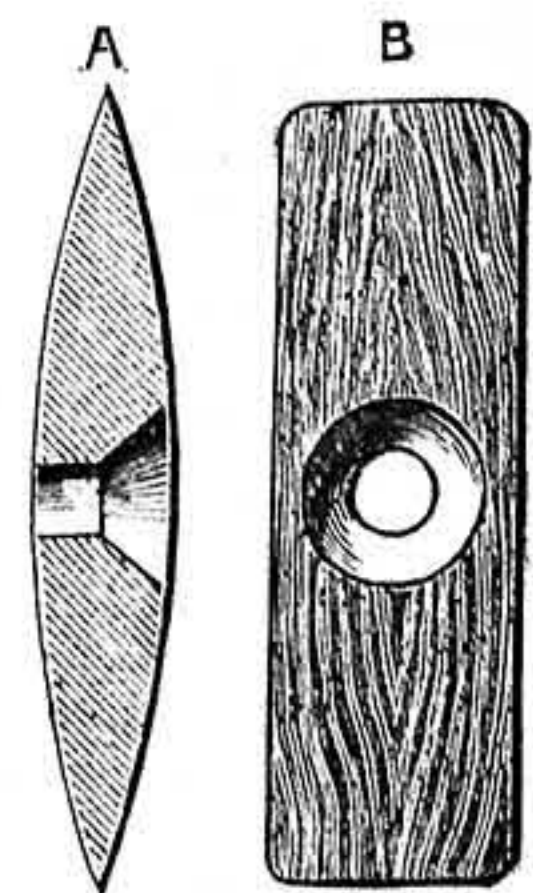
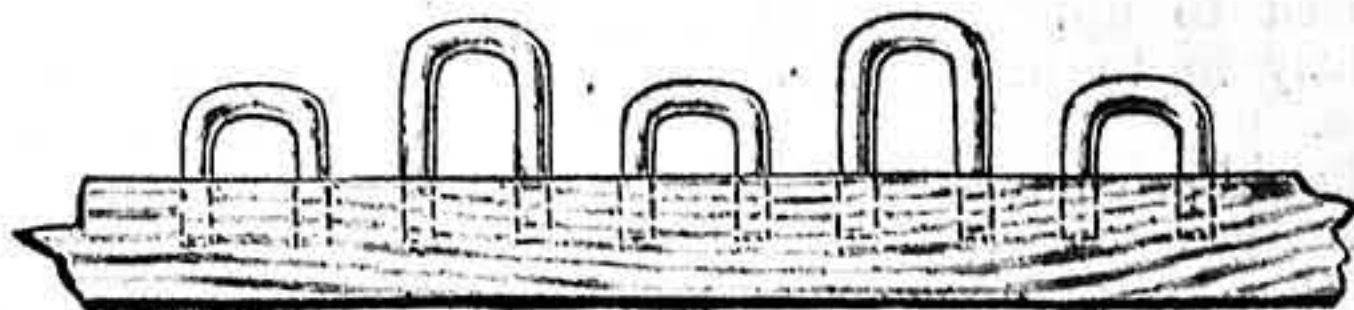
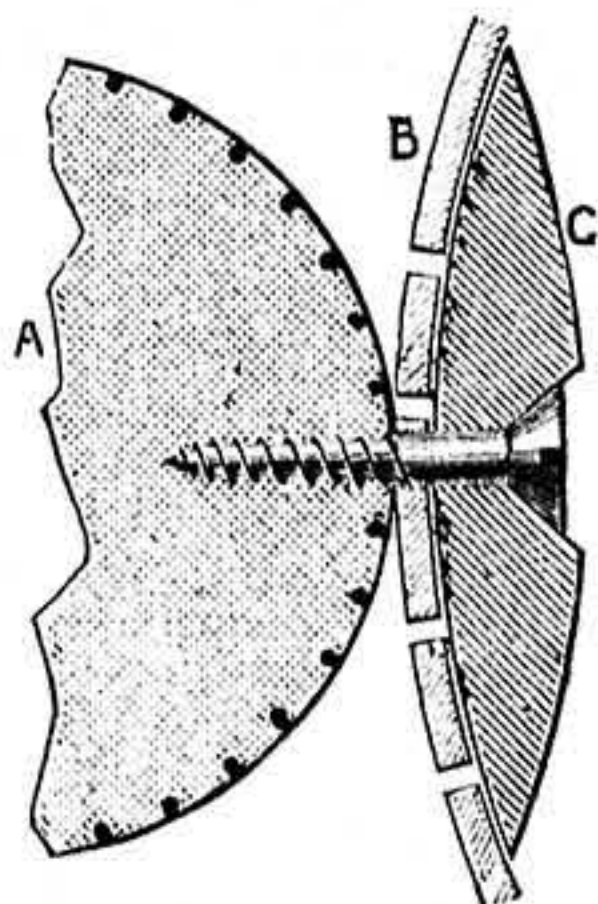

Fig. 2
Fig. 6
Fig. 3
Steadying Blocks.—Get a piece of hard wood, fully 1½ in. broad and about ½ in. thick; taper off with small plane on both sides to edge until the end assumes the shape of A in Fig. 2. Cut off six pieces to pattern B, and bore in centre of each a hole which will give easy access to ¼ in. screw, taking
Novel Stand for Golf Club. Fig. 1.—Stand complete. Fig. 2.—Cross Section and Front View of Clamp (full size). Fig. 3.—Cross Section, showing how Ball, Basket, and Clamp are fitted together. Fig. 4.—Eyelet through which Tray is fixed to Club Head. Fig. 5.—Method of joining Tray to Club. Fig. 6.—Showing how Hoops are erected. Fig. 7.—Design for Tray with Explanatory Note (Fig. 7 A) as to Colour.
"sixpennies" or "re-makes" from any club-maker, and the result will be much more satisfactory to the eye. Through the holes made in the basket, and with the aid of the clamps already mentioned, the balls can now be fixed in position, and the method will, perhaps, be better understood by a glance at Fig. 3, which shows how ball (A), basket (B), and clamp (C) are united.
Ornamental Edging for Tray.—The introduction of some simple ornamentation to take away the plainness, and prevent the clubs slipping off, is advisable. This may consist of a series of miniature hoops (eighteen in all), made from thick cage-wire, cut into two lengths of 4 in. and 6 in. The regularity of the curve may be ensured by bending each piece, from the middle, round the handle of a long kitchen broom—an article which is surely within the reach of all. Fix these, large and small alternately, on upper surface of tray, in an upright position (see Fig. 6) at regular intervals from one another, and about half an inch from edge, into holes pierced half-through with a small bradawl, suitable to the thickness of the wire used.
articles indispensable to boys, and I shall begin with a rabbit box or hutch. The first thing to do is to find out how much wood we require and obtain it; and as we are only commencers we shall fall back on old packing-cases and boxes of that sort for timber to experiment on. A very good form of rabbit box is made plain square with two divisions, one for the animals to sleep in, and the other for them to feed in, with what is known as a lean-to roof, which may be covered with felt and tarred, if it is to be exposed to the weather, but which is most likely to be kept in the back house, and which, in this event, will not require any waterproof roofing. The size for a hutch to hold, say, a pair of rabbits will be about 24 in. long, 24 in. deep, and 18 in. high in the front, sloping down to 12 in. high at the back. The first things to get are two sides 24 in. long and 18 in. high at one end, and 12 in. high at the other, and about ¾ in. thick. But as timber 18 in. wide is not to be had, as a rule, we shall have to put the pieces together to make up the required thickness. This may be done in several ways, but about the easiest way is to lay the narrow boards edge to edge and to nail narrow strips, technically called cleats, down to them at right angles, so that the whole is firmly held together (see Fig. 1, and observe the position of the nail-holes). After the nails are driven through they are clenched at the other side—that is, they are bent over so that they will tighten the wood together and not come out again except by the use of very considerable force. A glance at the old packing case will show us how this is done; the points of the nails will, by this operation, be turned in so as not to do any damage. The top edge will now be cut to the required slope, and when the sides are finished they are nailed to the edge of the piece forming the back, which will, of course, be 24 in. long and 12 in. high. The partition (Fig. 3) is next to be made in the same way and fitted into its place; it has two small doors for the exit and ingress of the "bunnies," cut out with a pad saw if we have one; if we have not, with an ordinary saw as far as we can go, and the rounded top with a strong jack knife. This partition is put into its place, leaving a foot deep for sleeping space and a foot for feeding space, not counting the thickness of the partition, and will be kept in position with nails driven through the sides. We will, in putting the sides together, and in all cases, keep the cleats as much out of sight as possible.
Another mode of putting the box together would be to get square scantlings of timber of, say, $1\frac{1}{2}$ in. square, and nail the boards on to these as required (see Fig. 2); the scantlings give extra strength as corner pieces, and do away with the necessity of cleats. Rabbit boxes, as a rule, have no bottoms, but if any reader thinks his would be better with one, it can easily be made in the same manner as the sides, and when made can be fitted to the bottom and left loose in order to be cleaned from time to time, or nailed into position from the sides down at the bottom edge.
Rabbit Hutches. Fig. 1.—Manner of laying Boards to be cleated. Fig. 2.—Another way of building up Boards. Fig. 3.—Partition. Fig. 4.—Manner of securing Rails by Wedges—A, Rail with Saw-cut; B, Wedge ready to be driven; C, Wedge driven home; D, Wedge and End cut and cleaned off. Fig. 5.—Bottom of Door. Fig. 6.—View of Side. Fig. 7.—View of Front (Door partly open). Figs. 8, 9, 10, 11, 12.—Various Tools. Fig. 13.—General View of Rabbit Hutch.